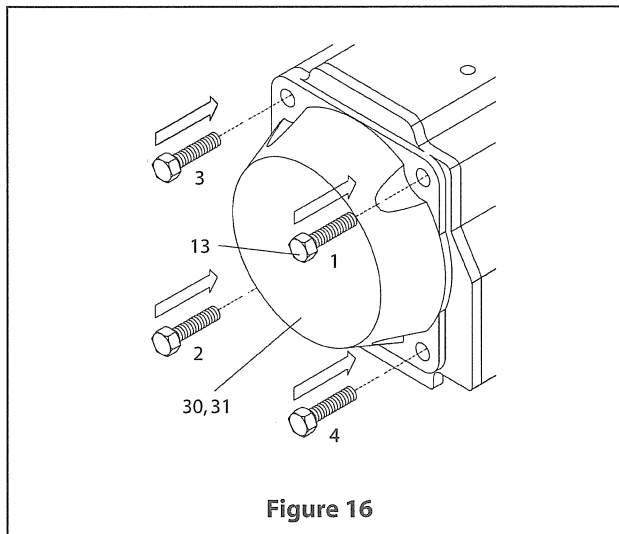

Figure 16
- B. Apply silicone grease to the end-cap o-ring seals, using the recommended o-ring-area grease listed in **(Table 2)**. Fit the end-cap o-ring seals (14) into the groove in each end cap (30, 31).
- C. Fit the end caps (30, 31) onto the body (50), verifying that the o-ring seals (14) remain in the grooves.
- D. Insert all end-cap screws (13) and hand tighten. Complete tightening by following the sequence indicated in **(Figure 16)**.